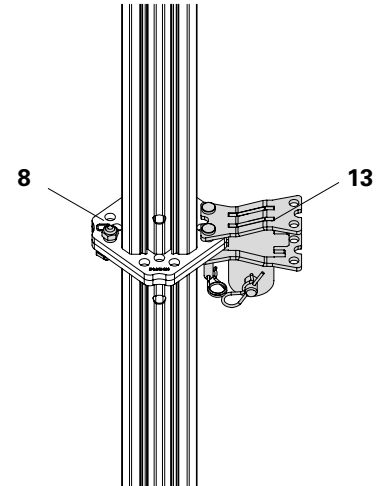

Fig. A5.01b
If the Brace Connector MPR is to remain on the prop connection permanently, 1 MULTIPROP Bolt (8) on the side opposite the connection is sufficient. (Fig. A5.01b)